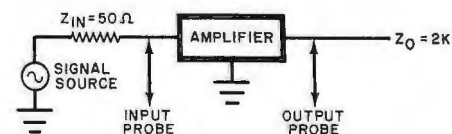

Fig. 3. Scope/probe combination can affect phase-error measurements.
**Phase-Shift Error.** In making measurements, source impedance is the key parameter. Accuracy requires that the source impedances of the two points being measured be on the same order of magnitude. For example, referring to Fig. 3, consider the effects of various probes on phase measurements between the input and output of the amplifier. The source impedance of the input is 50 ohms; while, for the output, it is 2000 ohms.